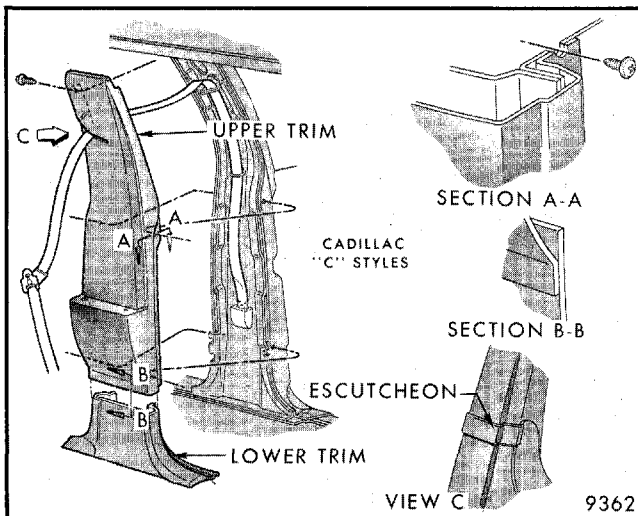

Fig. 5-27 - Center Pillar Trim Attachment - Cadillac "C" Styles
2. Remove all attaching screws securing upper trim to center pillar. On "B,C" (less Cadillac) styles, unsnap upper shoulder harness belt loop escutcheon and remove upper loop attaching bolt. On Cadillac "C" styles, after upper trim removal, carefully uncrimp and remove escutcheon covering webbing slot (View C, Fig. 5-27), remove belt webbing and remove upper trim.